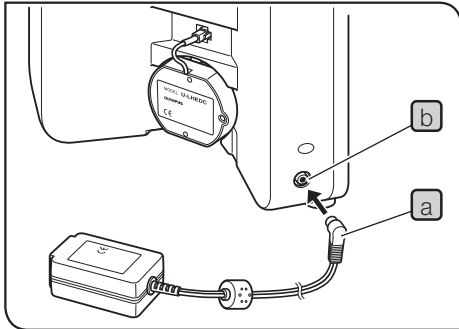

Fig.58
## 12 Attaching the AC adapter (Fig.58)
- 1 Insert the connector **a** of the AC adapter firmly into the connector **b** on the microscope. (Fig.58)